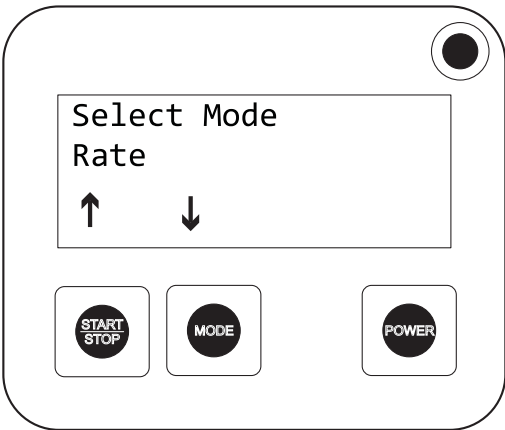

Figure 8 Select mode screen
- 1. Press the **MODE** key once on the Main screen. Refer to Table 2 on page 18 for the different modes available. The bottom line displays the current mode (refer to Figure 8 on page 18).